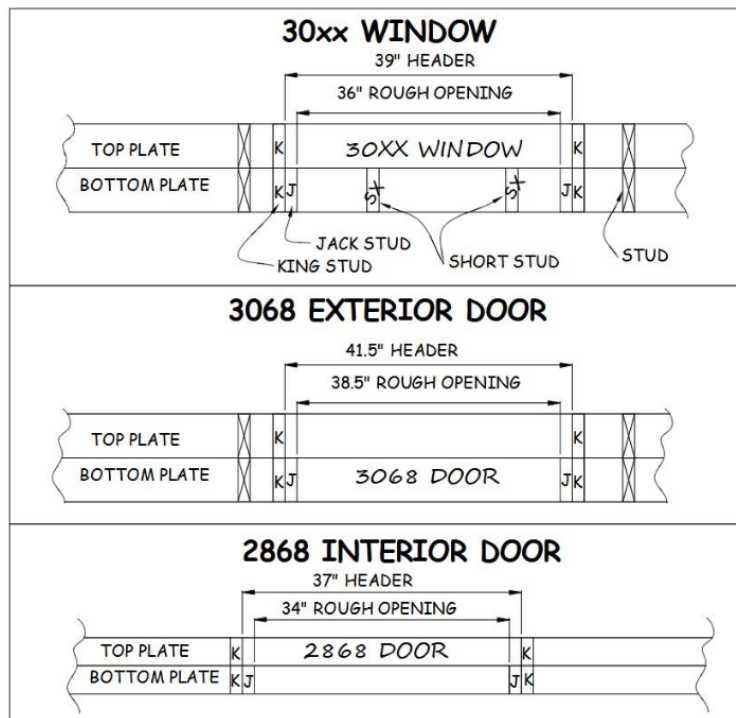
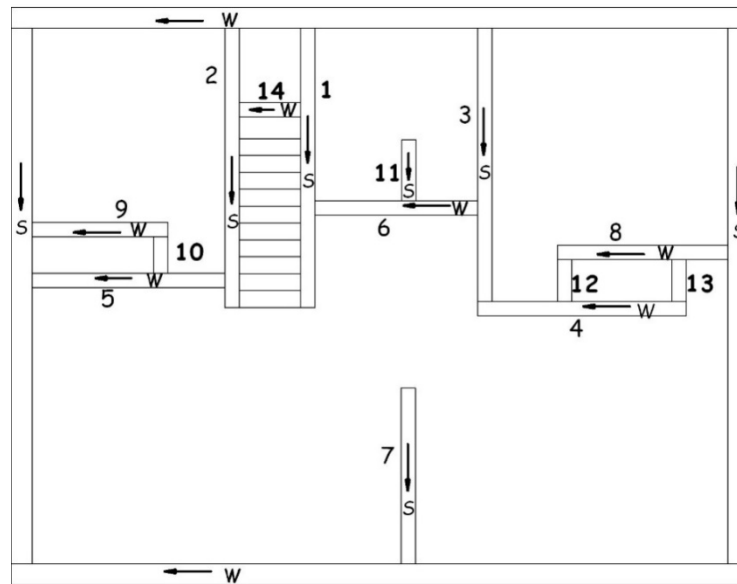

Figure 3-5. Plate Marking for Doors and Windows.
Figure 3-8. Plate Labeling Diagram.
3. Using the center-line that was marked for the door and window components, mark the rough opening and then the King and Jack stud locations. Referring to the window or door sizes indicated on the Plate Layout Drawing, measure and mark the location of the King and Jack studs supporting the header (see Figure 3-5). Window and door sizes are indicated with a four-digit code. The first two digits represent the width of the opening in feet and inches. The second two digits represent the height of the opening in feet and inches. For example, a 3040 window is 3'-0" wide by 4'-0" high (i.e., 36" wide by 48" high).
4. Label the King and Jack stud locations with "K" or "J" to specify the location of the pre-built window and door components during wall assembly. The Jack studs will always be to the inside of the King Studs. Stud width is always 1½". Label the location of both King and Jack studs on the bottom plate but label only the King stud on the upper plate (see Figure 3-5).
- a. Mark the inside edge of the upper plate with "UPPER" and the inside edge of the bottom plate with "BOTTOM" (see Figure 3-5). Mark the upper plate with a letter and arrow showing the compass orientation (north, south, east or west) of the plates while lying on the deck (see Figure 3-8).
5. When complete, label upper and bottom plates. Mark compass orientation and label both plates and deck with an identifying number (see Figure 3-8).